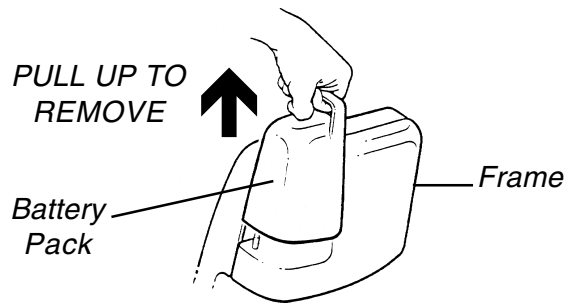

FIGURE 17 - REMOVING THE BATTERY PACK
2. Remove the battery pack by grasping the handgrip on battery pack and pull upwards (FIGURE 17).